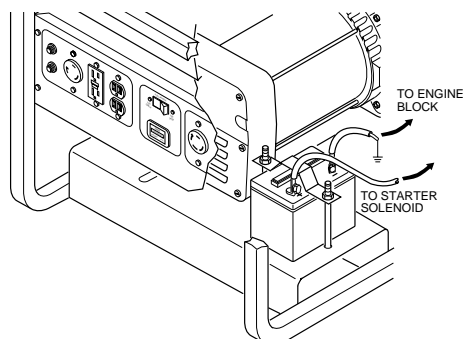

Figure 11 - Connecting Positive and Negative Cables to Battery (Model PGH7500IE Shown)
2. Locate the red, positive (+) battery cable from starter solenoid. Connect it to the positive (+) battery terminal (see Figures 11 and 12).
3. Locate the black, negative (-) battery cable attached to engine block. Connect it to the negative (-) battery terminal (see Figures 11 and 12).